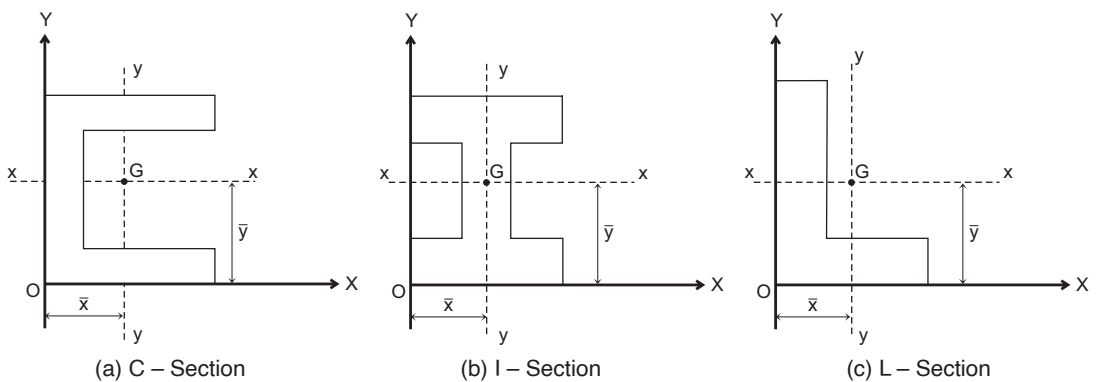

Fig. 4.3: Axis of symmetry
- C- Section (Channel)** [fig. 4.3(a)] Section is symmetrical about  $x$ - $x$  axis. So  $\bar{y}$  is directly available and  $\bar{x}$  is to be calculated.
- I-Section** [fig. 4.3(b)] Section is symmetrical about both  $x$ - $x$  and  $y$ - $y$  axis. So  $\bar{x}$  and  $\bar{y}$  both are directly available.
- L-Section (Angle Section)** [fig. 4.3(c)] Section is not symmetrical about any axis. So  $\bar{x}$  and  $\bar{y}$  both are required to be calculated.